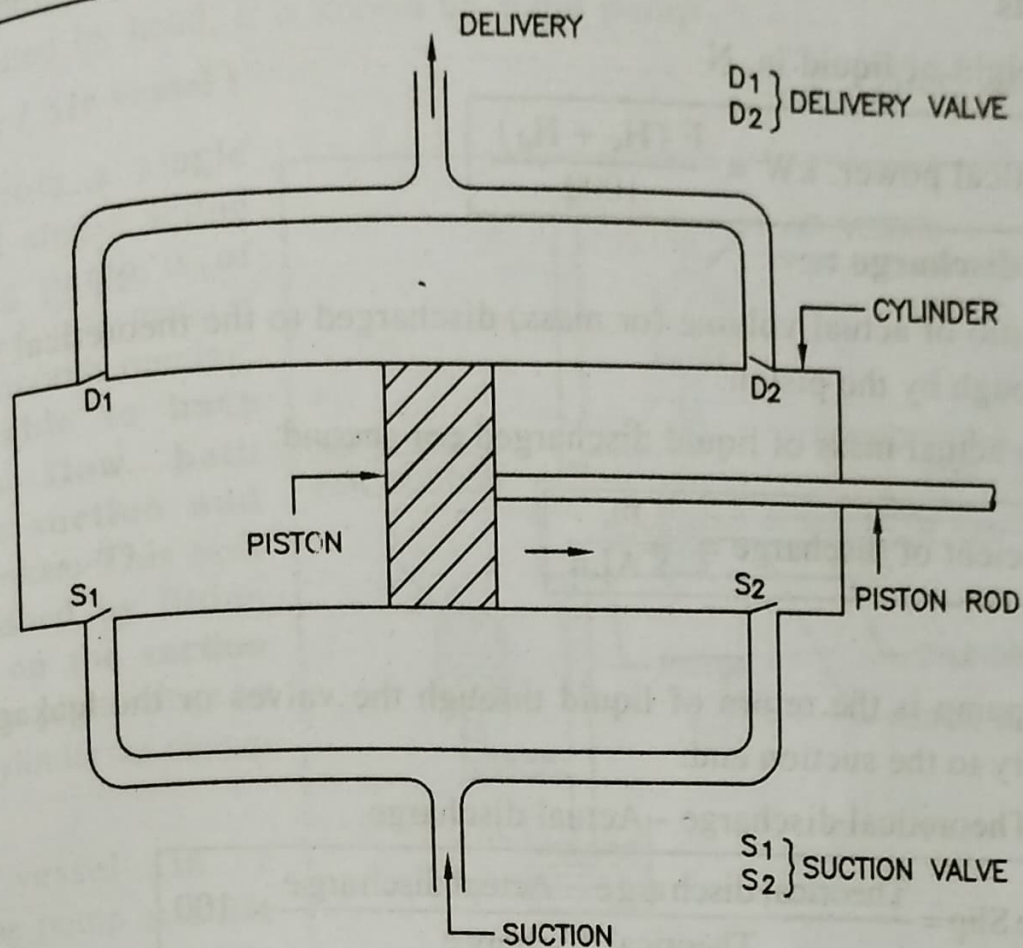

FIG. 8.4 DOUBLE ACTING RECIPROCATING PUMP
- Fig. 8.4 shows double acting pump. When the piston moves towards the right side of the cylinder, the liquid is sucked from sump through suction valve S_1 . Simultaneously, built up of high pressure on the right side of the piston opens the delivery valve D_2 and the liquid is pumped in to the discharge tank till the end of the stroke. When piston moves towards the left side of the cylinder, the liquid is sucked through suction valve S_2 and simultaneously delivered to the discharge tank through delivery valve D_1 till the end of the stroke. Double acting pump gives more uniform discharge compared to single acting pump.